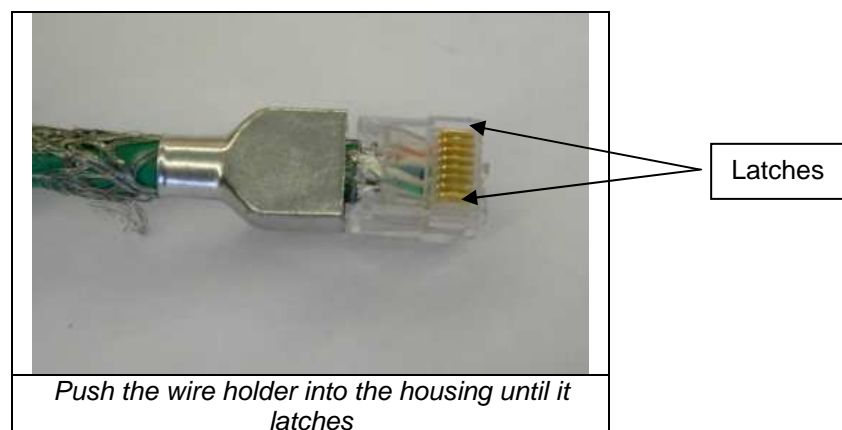

Figure 10
7. Push the wire holder into the housing until it latches into both sides of the plug housing. A double click shall be heard when both latches are in their place. See Figure 10.